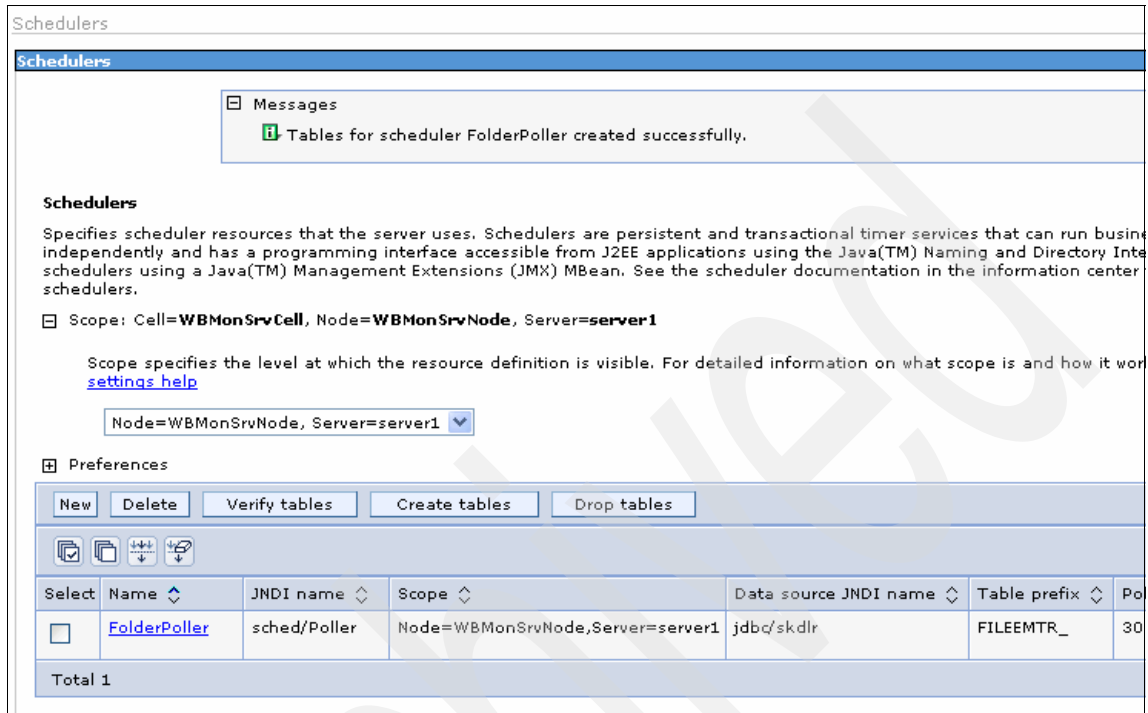

Figure 9-34 Creating tables for the scheduler
4. In the Scheduler panel (Figure 9-34), select the newly created **FolderPoller** scheduler and click **Create tables**.